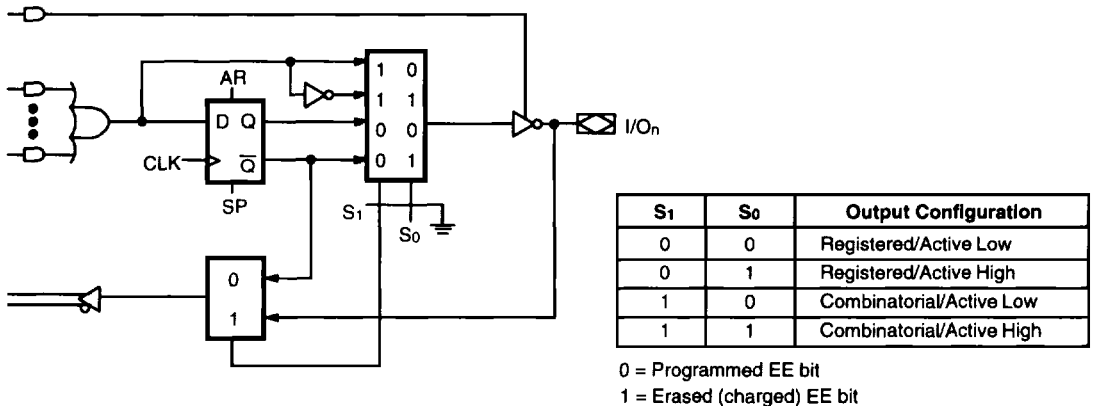
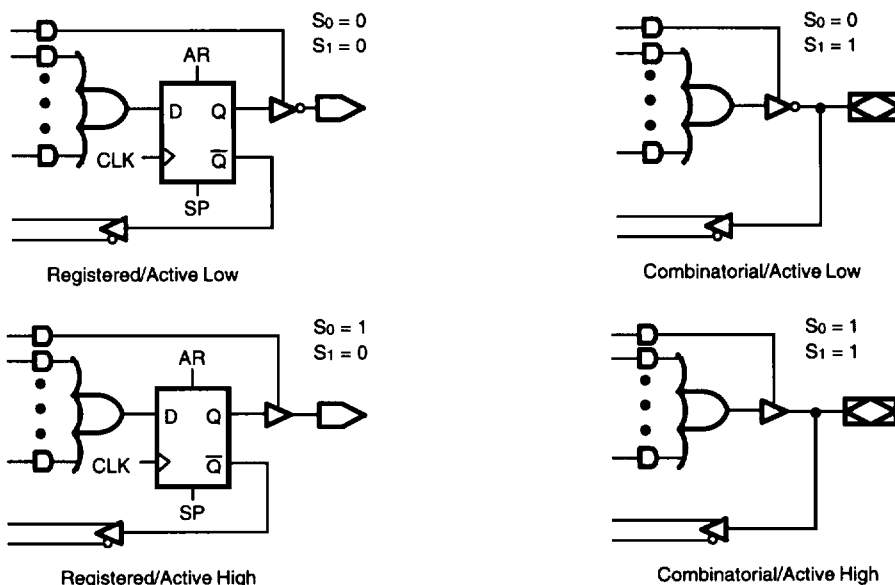

Figure 1. Output Logic Macrocell
Figure 2. Macrocell Configuration Options
The PALLV22V10 has 12 inputs and 10 I/O macrocells. The macrocell (Figure 1) allows one of four potential output configurations; registered output or combinatorial I/O, active-high or active-low (see Figure 2). The configuration choice is made according to the user's design specification and corresponding programming of the configuration bits S_0 - S_1 . Multiplexer controls are connected to ground (0) through a programmable bit, selecting the "0" path through the multiplexer. Erasing the bit disconnects the control line from GND and it floats to V_{CC} (1), selecting the "1" path.